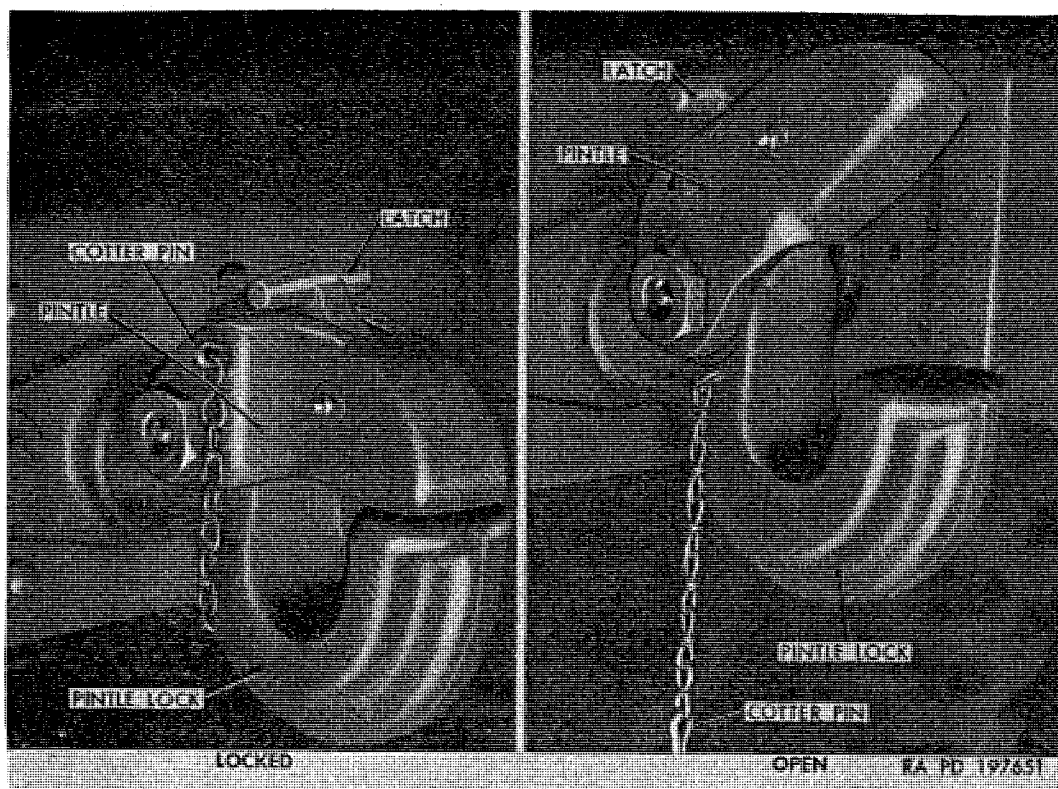

Figure 41. Pintle operating positions.
a. Use of Pintle (fig. 41). All vehicles except gasoline tank truck M217 and water tank truck M222, are equipped with a pintle mounted on rear frame cross member. To open pintle, pull cotter pin from pintle lock (upper half). Pull latch rearward, and, at the same time, pull up on the pintle lock. To close, push pintle lock down against pintle. Latch will automatically engage. Insert chained cotter pin into hole in pintle lock.
- (1) Raise transfer lever to UP ENGAGED position.